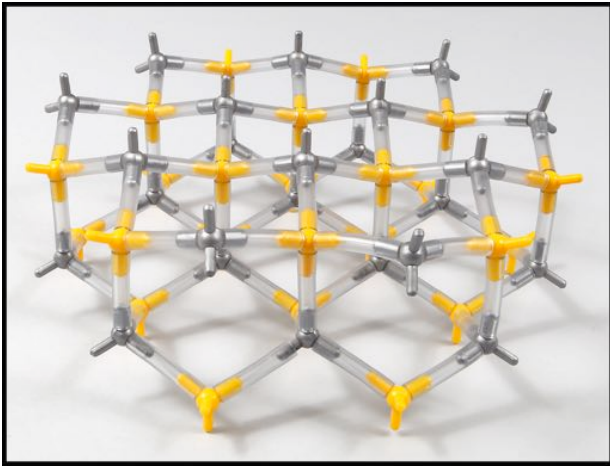
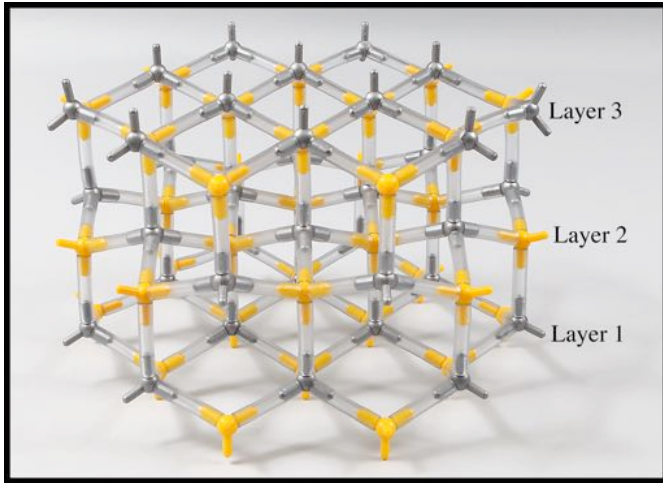

Fig. 5
Fig. 6
5. Make two more copies of the structure assembled in step 3. Attach the zinc ions' pegs (which point up) of one layer to the sulfide ions which point down of another layer. Notice that the hexagons of one layer are lined up with hexagons of the next layer (Fig. 5) Repeat this procedure with the third layer (Fig. 6)